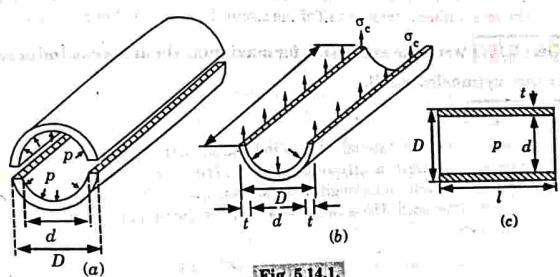

Fig. 5.14.1.
- Consider a thin cylindrical shell subjected to an internal pressure as shown in Fig. 5.14.1(a) and (b).
- We know that as a result of the internal pressure, the cylinder has a tendency to split up into two troughs as shown in the Fig. 5.14.1.
- Consider the same cylinder under consideration has its two ends covered with two end plates connected to them as shown in Fig. 5.14.1(a) and (b).